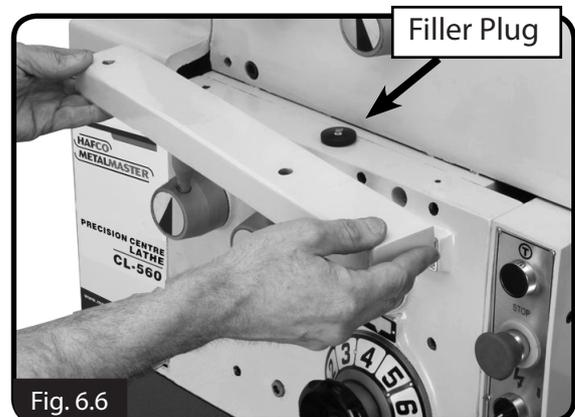

Fig. 6.6
3. Replace the drain plug and fill the gearbox with new oil so that the oil level is halfway up the oil sight glass. The filler plug can be found by removing the cover plate above the gearbox. (See Fig. 6.6)